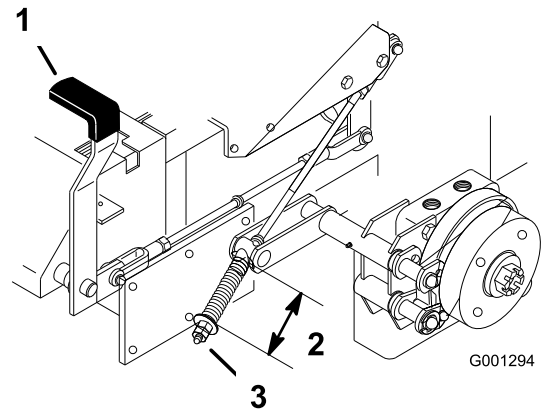

Figure 59
2. Measure the length of the spring. Measurement should be 2-1/2 inch (64 mm) between the washers (Figure 59).
3. If adjustment is necessary, release the parking brake, loosen the jam nut below the spring and adjust the nut directly below the spring (Figure 59). Turn the nut until the correct measurement is obtained. Turn the nut clockwise to shorten spring length and turn counter-clockwise to lengthen the spring.